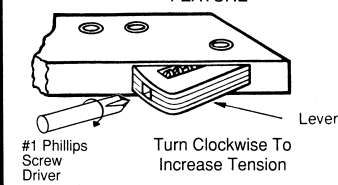

FIG. 8
- Mounting brackets 297M and 297N for stop applied hardware** may be supplied. See Figures 8 and 9. Position center line of bracket or brackets to coincide with center line of stop applied hardware according to manufacturer's template. Mount brackets. Drill and tap brackets for stop applied hardware per manufacturer's template.